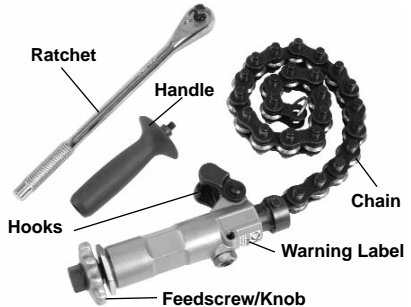

Figure 1 – 238-P Soil Pipe Cutter
- Presence and readability of the warning label (See Figure 1.)